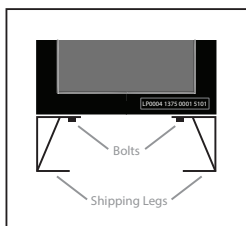

Figure 2.1
1. Locate the bolts that secure the legs to the bottom of the safe (Figure 2.1)